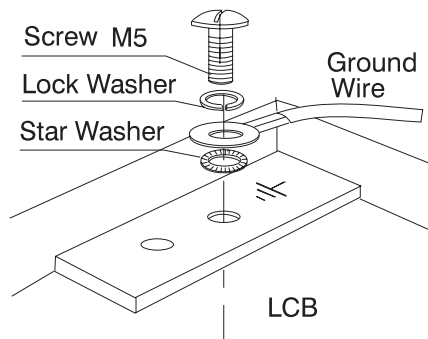

Figure C-12. Standard Grounding Connection
- 5 mm diameter screw, length from 6 mm to 10 mm (see Figure C-12).